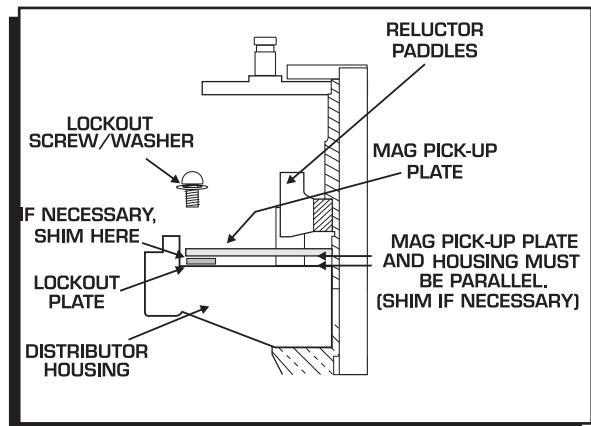

Figure 12 Checking Installation of the Lockout Plate.
6. It is important to make sure the pickup plate is parallel with the housing of the distributor (Figure 12). If it is cocked or slanted, the paddles of the reductor may contact the pickup. Check the clearance by rotating the distributor shaft. If necessary, use the supplied shims under the Lockout hold-down to correctly position the pickup plate.